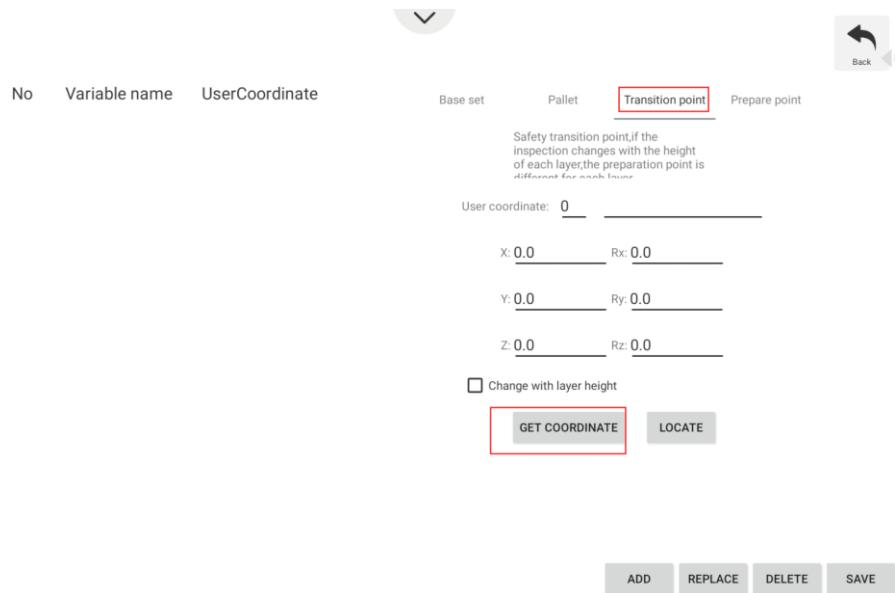

Figure 4.7 Teach the transition point
**Step 4** Jog the robot to the transition point and click **GET COORDINATE** on the **Transition Point** tab, as shown in Figure 4.7.